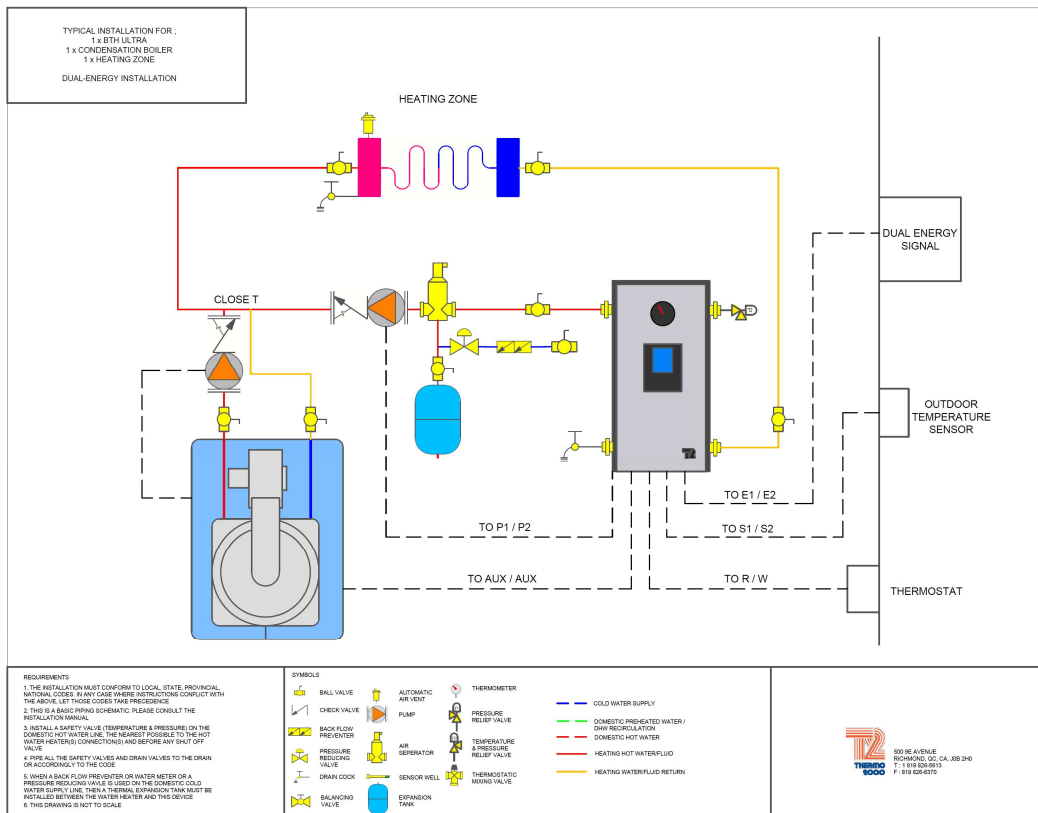

Figure 9 - Typical Dual-Energy installation with a condensation boiler (1 zone)
N.B.: Make sure to select the appropriate port A, B and AB when making the connection of the piping (see fig.9)